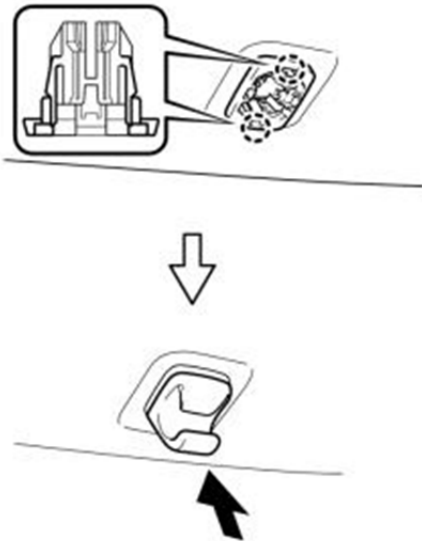

Figure 21
21. Engage the two claws. Push in the visor holder to install as shown in figure 21.